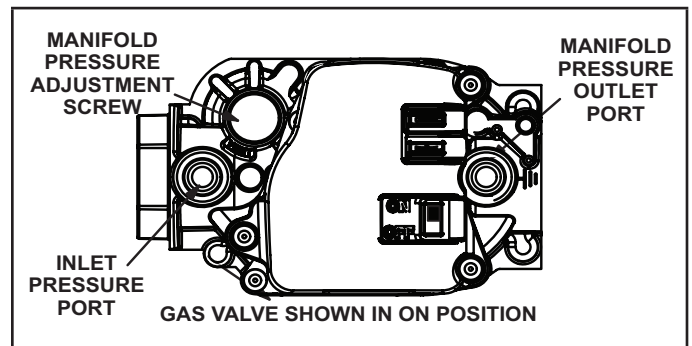

FIGURE 55
Gas Valve Operation (Figure 55)
- 6 - Move gas valve switch to OFF. See figure 55.
- 8 - Move gas valve switch to ON. See figure 55.